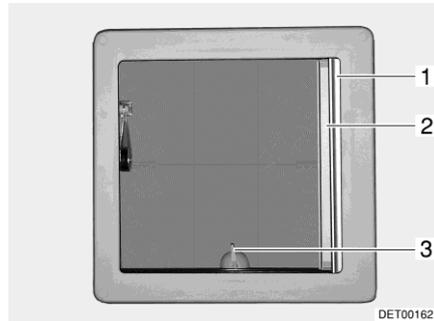
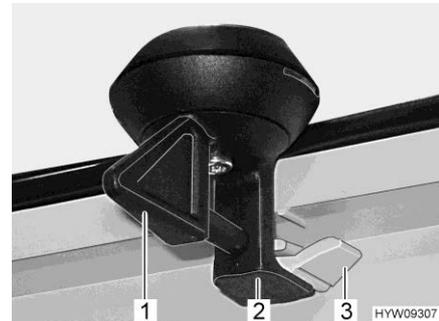

Fig. 70 Hinged skylight
Fig. 71 Lock (hinged skylight)
- Turn the lever (Fig. 70,3 or Fig. 71,1) one quarter turn.
- Turn the lever one quarter turn. The lock (Fig. 71,2) must slide into the bottom catch (Fig. 71,3).
- Pull out Roman shade (Fig. 70,1) and release in the required position. The Roman shade will stay in that position.
- Pull insect screen (Fig. 70,2) out until it engages with the latch on the opposite side.